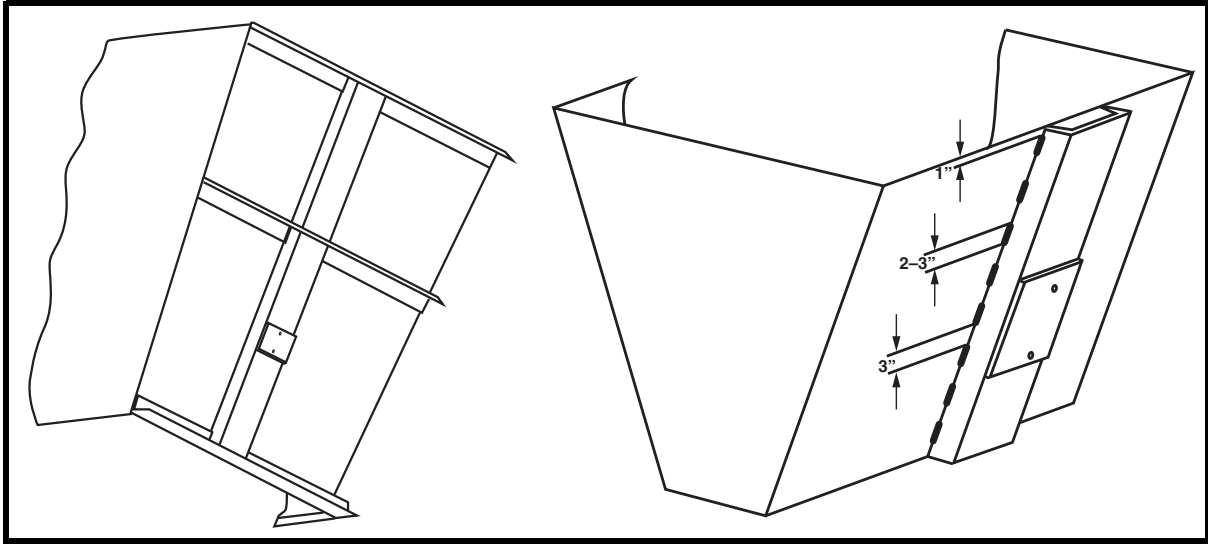

Figure 2. Welding Channel to Bin
- c. See Figure 2. Skip weld channel or beam onto hopper wall: Weld 3 in. (76 mm), then skip 2 in. (51 mm). Do not weld last 1 in. (25 mm) or either end of beam or any corner.
A channel of recommended weight and size (see Table III) should be welded on the side with the least slope. Weld the legs of the channel to the bin wall, using skip welds (see Figure 2). Welds should be 2" -3" long with a 3" skip. Do not weld any closer than 1" from the end of the channel. If bin has a frame at the top and/or bottom weld solidly to this frame as shown in Figure 2. The vibrator mounting plate is then welded to this channel. All welding should be done with normal mild steel rod when attaching mounting assembly to mild steel structures. These same structural mild steel channels can be welded to a stainless steel hopper wall by using a rod of the same type stainless as the hopper wall.